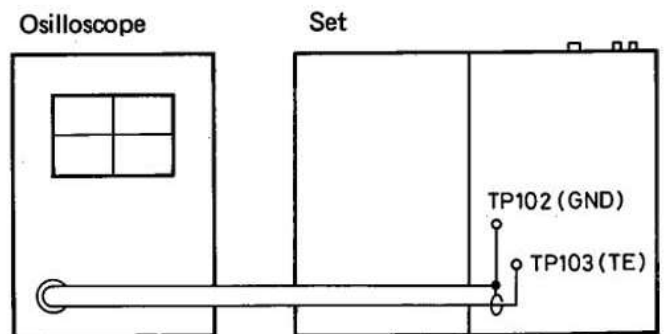

Figure 16
2. Connect oscilloscope to the set as shown Figure 16.